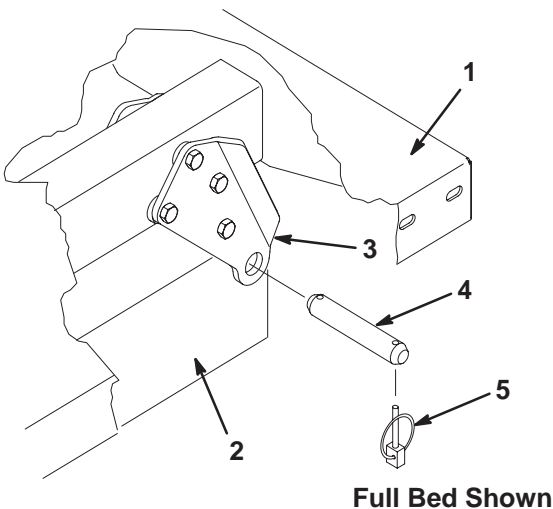

Figure 5
2. Carefully set bed onto vehicle frame aligning rear bed pivot plate holes with holes in rear frame channel (Fig. 5).
3. Secure each set of pivot plates to frame channels with a clevis pin and (2) lynch pins (Fig. 5). Tighten pivot plate mounting capscrews.
4. With bed lowered, secure each cylinder rod end, to appropriate slots in bed mounting plates with clevis pin and lynch pin. Insert clevis pin from outside of bed with lynch pin toward outside (Fig. 5). Rear slots are for full bed installation and front slots are for 2/3 bed installation.